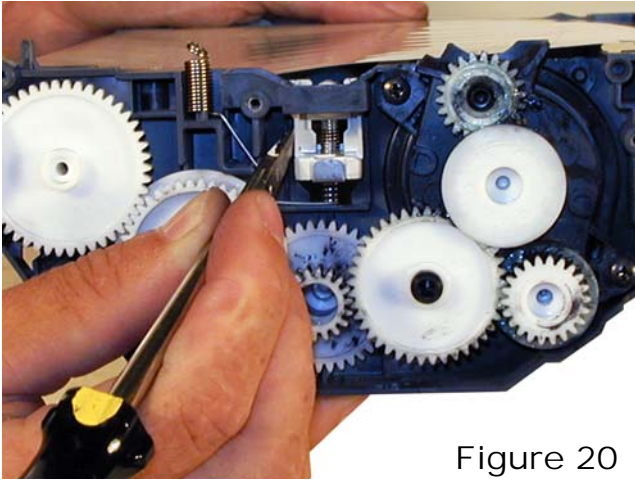

Figure 20
14) Press in on the tabs to release the transfer roller assembly. There are 2 tabs per side See Figures 20 & 21